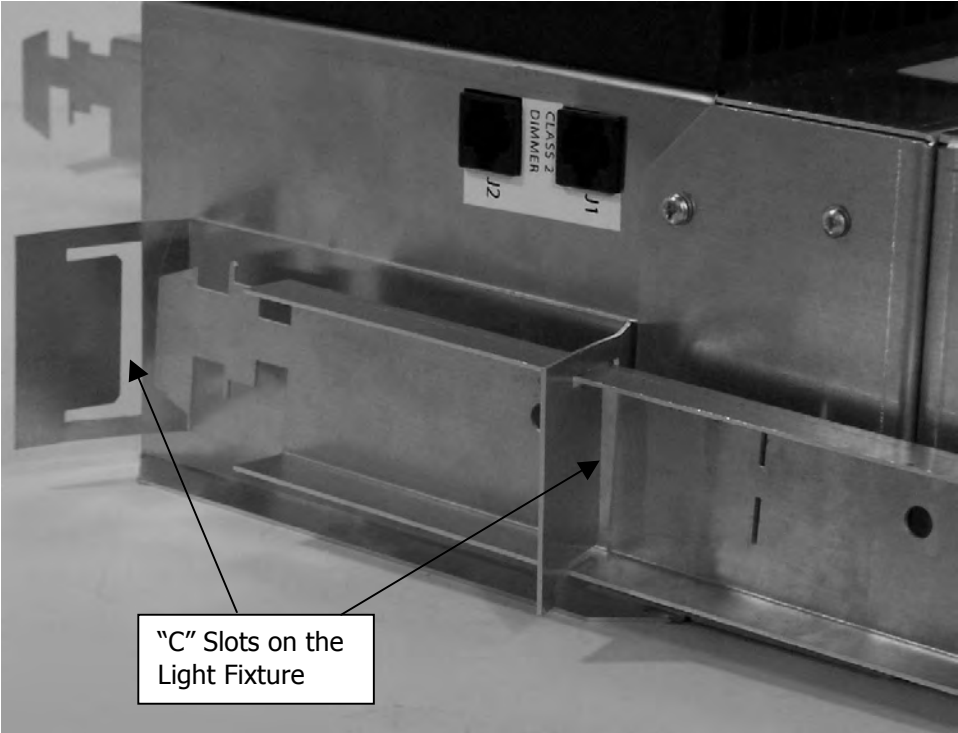

Figure 4: Inserting Spanner Rails into Light Fixture
- 7. When all tabs are bent over on both rails, insert spanner rails through the "C" slots of the light fixture brackets. It may be necessary to bend the bracket slightly inward to allow spanners to slide freely. Bend brackets back into position after spanners are in place. See Figure 4.